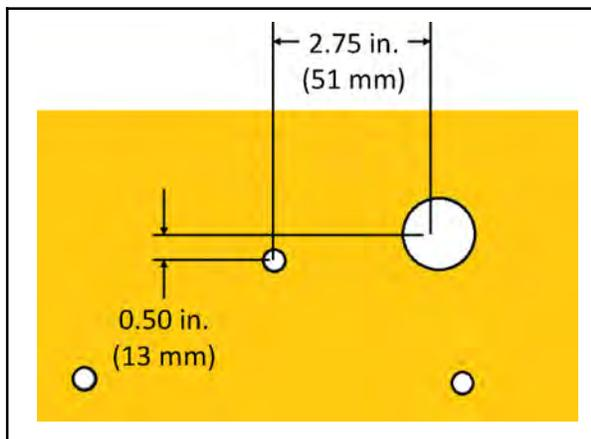

FIG. 9
- Measure and mark a location for the harness routing hole onto the front shroud. (Fig. 9)
- Drill a 0.886 in. (22.5 mm) hole for harness routing completely through the front shroud. (Fig. 9)